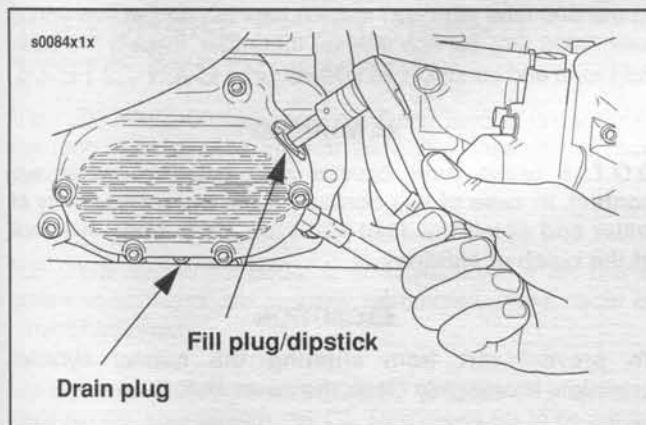

Figure 1-8. Transmission Fill and Drain
- See Figure 1-8. Remove the drain and fill plugs from the transmission and drain the used transmission fluid into a suitable container. The drain plug on FLSTS models can be accessed using a T40 bit on a universal joint.